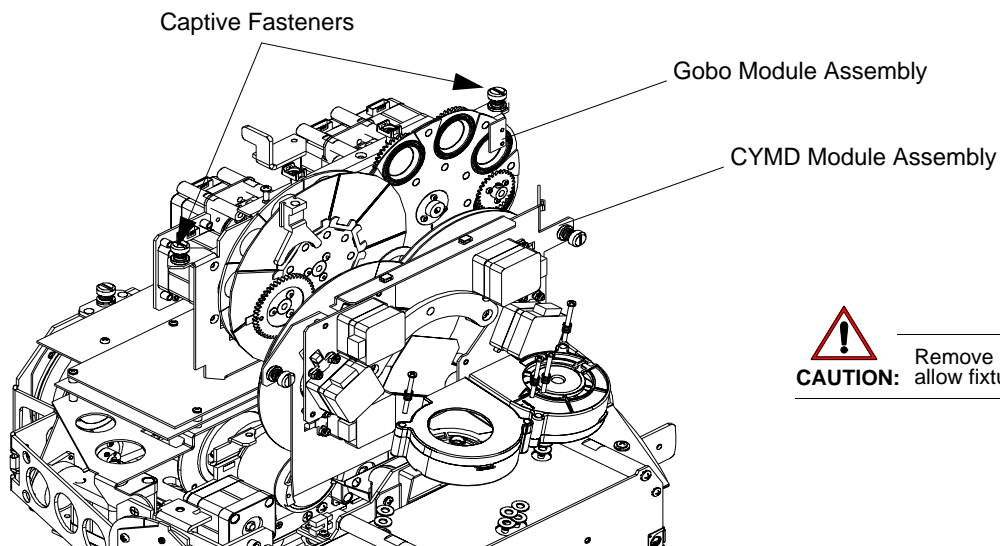

Figure 2-6: Gobo Module Assembly Removal
- Step 6. As shown in Figure 2-6, loosen two captive fasteners and carefully pull Gobo Module assembly from luminaire.